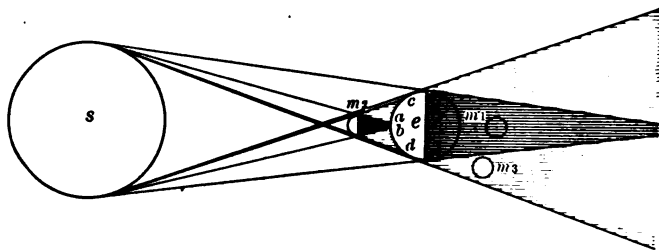

FIG. 145
**213. Eclipses.** — Fig. 145 shows how eclipses of the sun and moon are dependent on shadows. In the figure,  $s$  is the sun and  $e$  the earth. An *eclipse of the sun* is caused by the moon, which passes between the sun and earth. All points on  $e$  between  $c$  and  $d$  would see the sun *partially eclipsed*, but only those in the umbra of the shadow  $ab$  would see a *total eclipse*. When the moon passes through the umbra of the earth's shadow,  $m_1$ , we see a *total eclipse of the moon*. A *partial eclipse* would occur when it passed through the penumbra,  $m_2$ . From the figure it is evident that a total eclipse of the sun will cover but a small portion of the earth's surface.